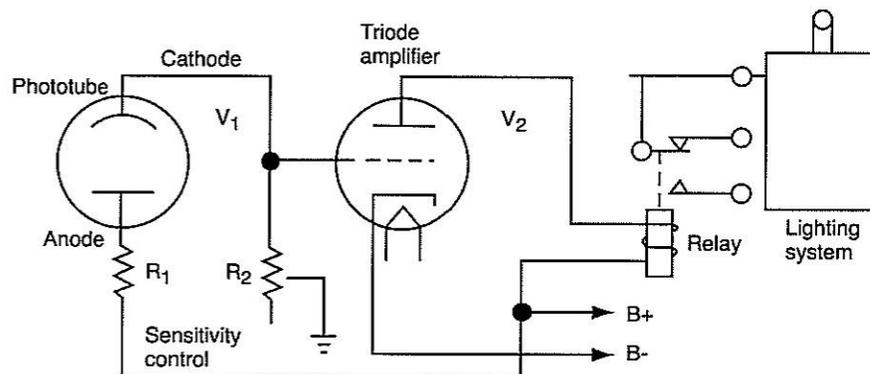

Figure 10.4: Photoelectric Control Unit
- 10-33 Vacuum tubes used as amplifiers had many industrial applications. For example, the photoelectric circuit, shown in Figure 10.4, was used for controlling lighting. When light shined on the cathode of a photoelectric cell, labeled V_1 in the diagram, the light-sensitive material emitted electrons. These electrons were attracted by the positively-charged anode, producing a small current.
- 10-34 The plate current from the photoelectric cell was too small to operate a relay and turn the lighting on or off. Therefore, the current had to be amplified. Before transistors were available, a triode was used to amplify the plate current. The triode is labeled V_2 in Figure 10.4.